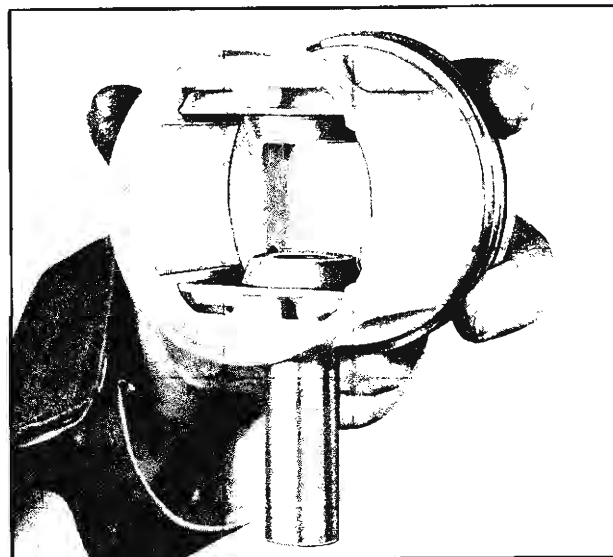

Fig. 35—Fitting Piston Pin
8. The fit must be such that the pin will hold its own weight in either boss and yet permit movement under thumb pressure in its final position (fig. 35).